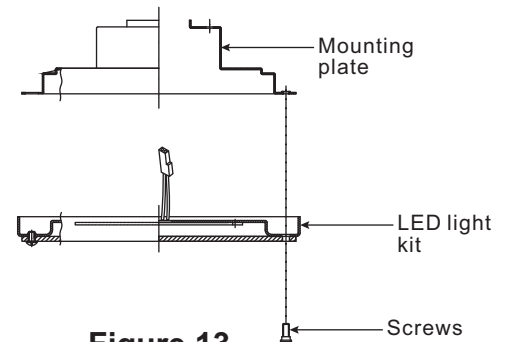

Figure 13
Step 2. Remove the LED light kit from the mounting plate. (Fig. 13)